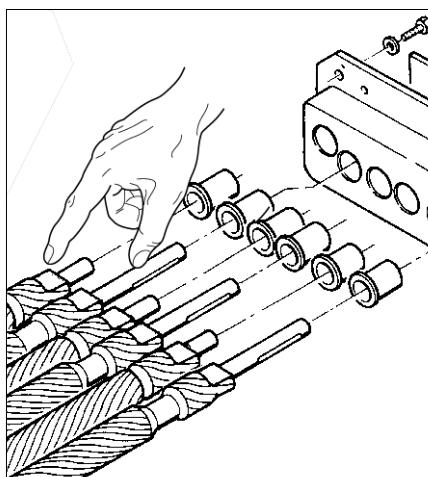

fig. 17.3 Flat side of peeling rolls
1. Mount all components in the correct order. Every peeling roll has a flat side on the drive side. Mount the peeling rolls in such a way that all flat sides are in horizontal position. See figure 17.3.